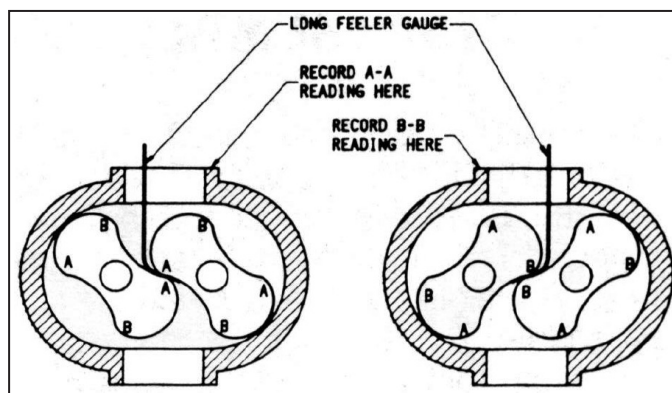

Figure 11 - Rotor Interlobe Clearance
19. EXAMPLE: Referring to Figure 11, check the clearance at AA (right hand reading) and BB (left hand reading). If AA reading is .013" (.32 mm) and BB reading is .007" (.18 mm), by removing .006" (.15 mm) shims, the readings will change one half of the amount removed or .003" (.08 mm). AA should then read .010" (.25 mm) and BB should read .010" (.25 mm). The final readings should be within .002" (.05 mm) of each other.